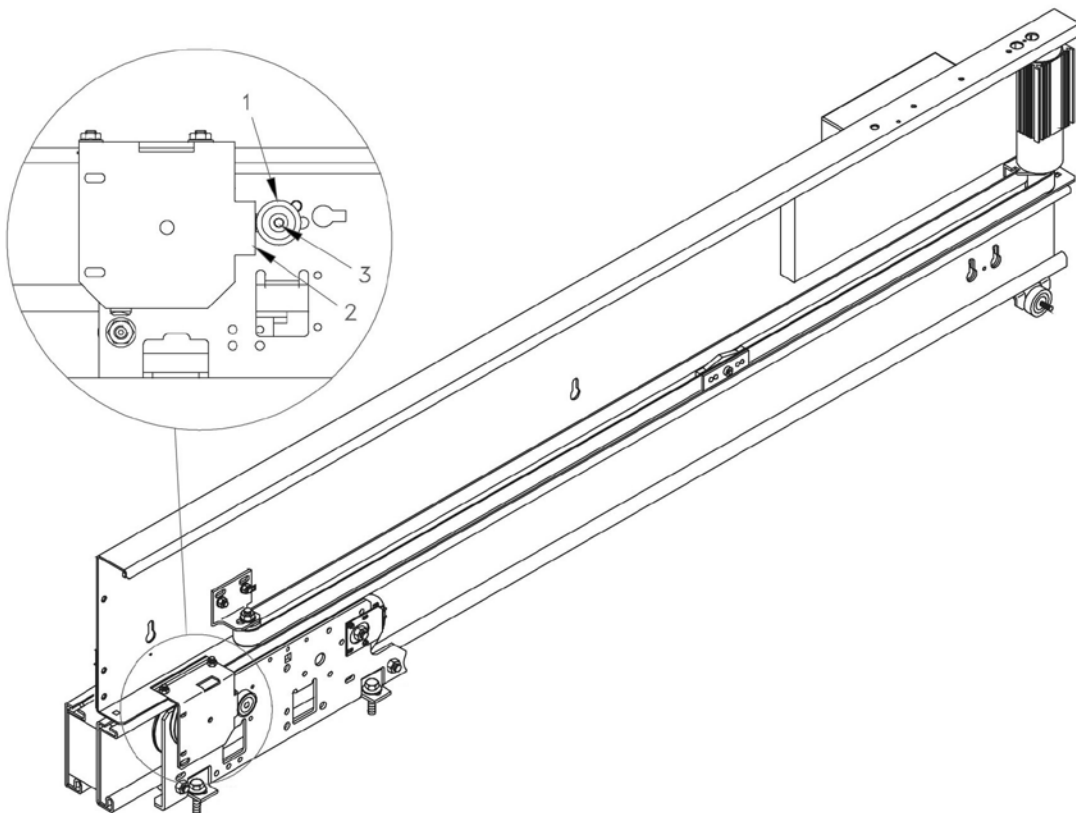

Figure 50 Check Door Bumper Setting
2. Make sure the door bumper (1) is touching the door stop (2). See Figure 50.
3. If the door bumper (1) IS NOT touching the door stop (2) with the car doors completely open:
- a) Loosen the socket head cap screw (3).
- b) Move the door bumper (1) until it is against the door stop (2).
- c) Tighten the socket head cap screw (3).